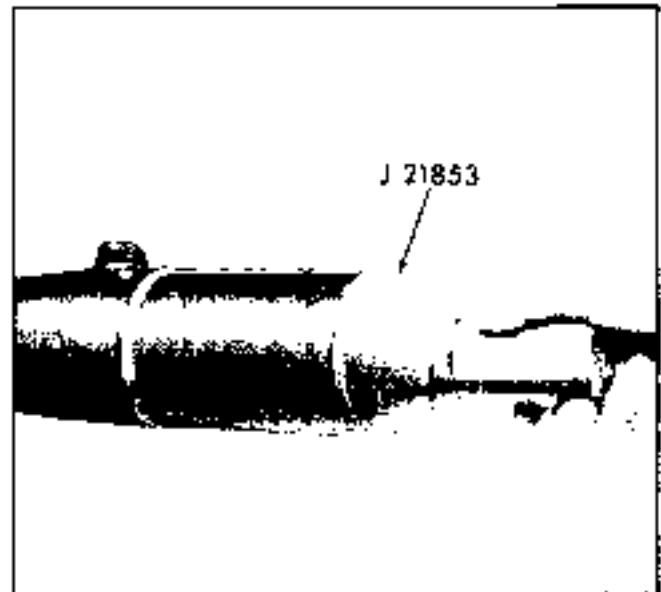

Fig. 9-33 Installing Turn Signal Switch Cover
15. Remove tilt release lever and install cover using tool J 21853 (see Figure 9-33).